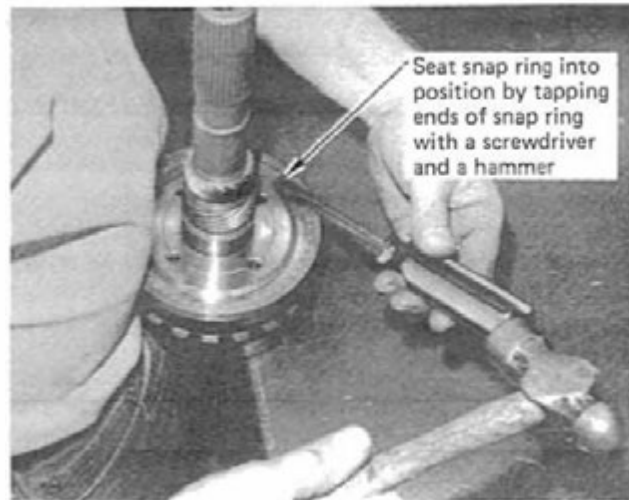

FIGURE 40
STEP 5. Install output shaft into output carrier engaging splines and pushing down until it bottoms out. Some rocking action may be necessary. Install output shaft snap ring into groove. If your transmission has a beveled snap ring, it must be installed with the bevel out. After the snap ring is installed in its groove, seat it by tapping each end of the snap ring firmly with a hammer and screwdriver. (See Fig. 40) If your output shaft has an O-ring seal, replace it with the O-ring in the kit.